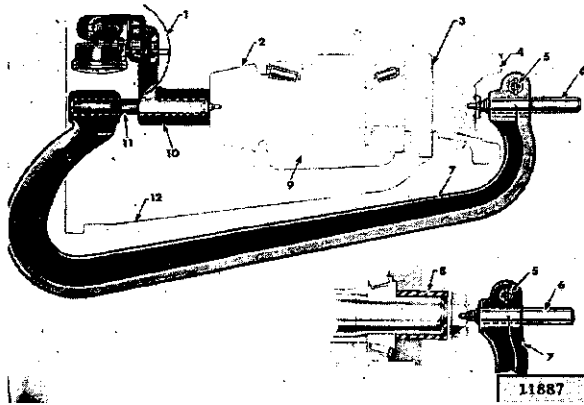

FIG. N-27—PINION ADJUSTING FIXTURE
- h. Install the pinion adjusting fixture on the pinion with the stationary guide pin and the adjustable guide pin seated in pinion shaft lathe centers, as shown in Fig. N-27.